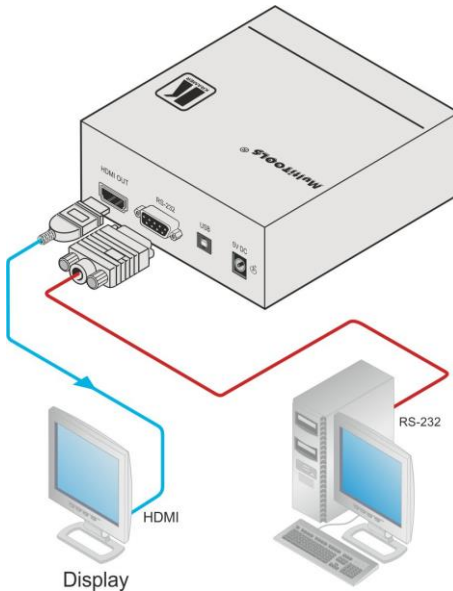

Figure 3: Connecting the 840Hxl Pattern Generator
To connect the **840Hxl** as illustrated in the example in Figure 3:
3. Connect the power adapter to the 5V DC socket and to the mains electricity (not shown in Figure 3).